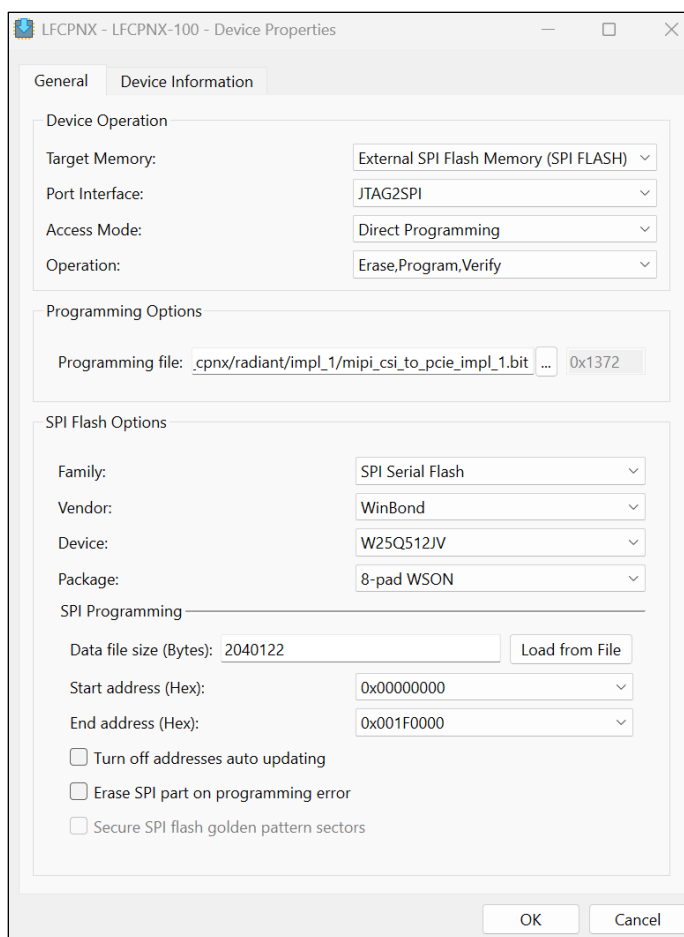

Figure 6.7. Device Properties Window for CertusPro-NX SPI Flash Programming
- c. Select the other settings as shown in Figure 6.7.